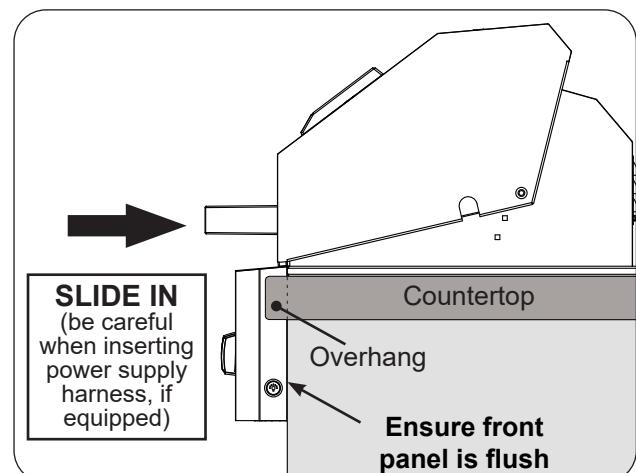

Fig. 27-3 Slide in unit (ensure flush)
- Ensure the unit fully slides in so that the front panel sits flush against the enclosure front wall. See Fig. 27-3 and the Counter Overhang section in **ENCLOSURE REQUIREMENTS** for details.